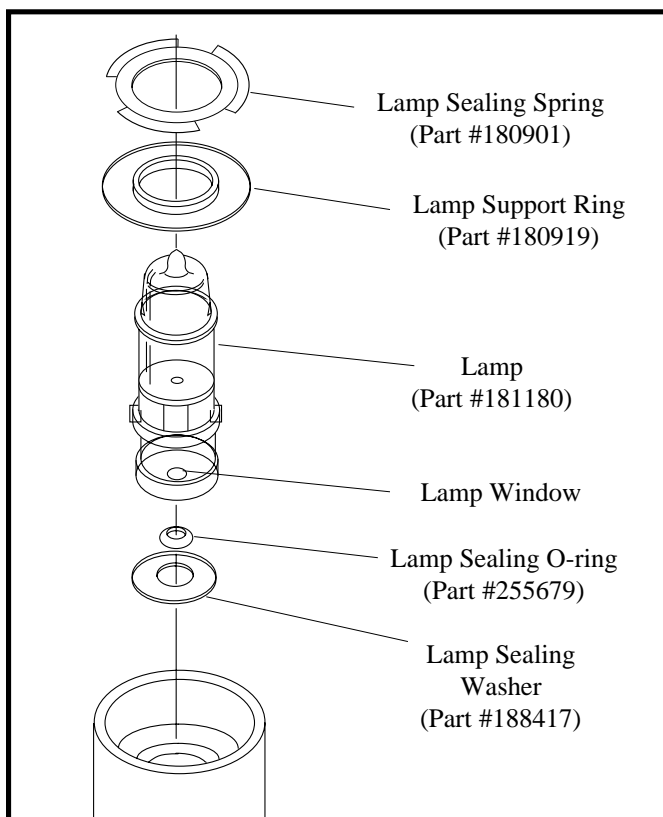

Figure 5.1. PID Lamp Assembly
8. Reinstall the lamp. It may be useful to replace the lamp sealing O-ring (Part #255679). Reinstall the PID tower into the base assembly, verifying that all seals, washers, and springs are reinstalled properly (see Figure 5.1).